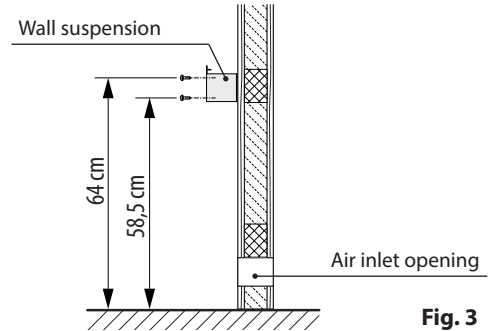

Fig. 3
- Screw the wall bracket tight as per Fig. 3 + 4 centrally over the air inlet opening with the enclosed chipboard screws.